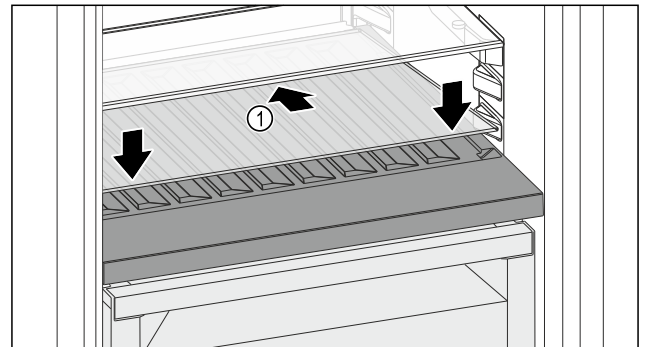

Fig. 211
- ▶ Place the glass shelf Fig. 211 (1) at an angle, sloping it downwards and backwards.
- ▶ Lower the glass shelf Fig. 211 (1) at the front.